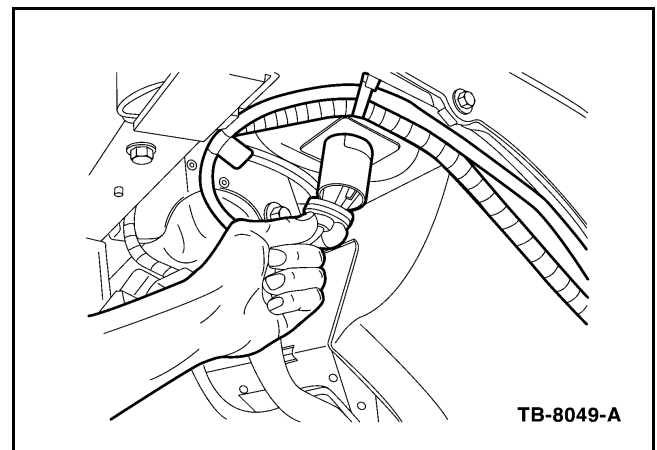

Figure 8 - Article 04-24-9
2. Mount the AC plug into the plug housing using a fir tree tie strap and the supplied hose clamp (Figure 8).